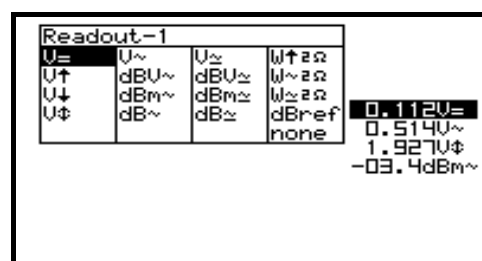

Fig 17
2. Press the cursorkeys to highlight the desired readout function for meter1 readout. (**Fig. 17**)